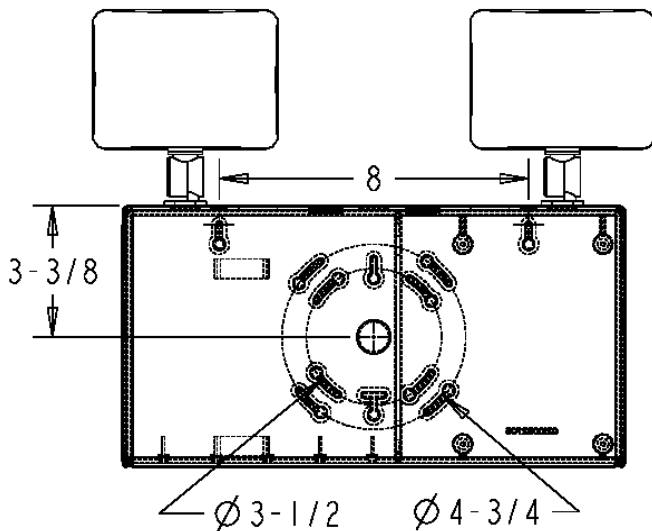

Figure 1
- 3) Additionally, two slotted vertical keyway slots (Figure 1) may be used to attach the housing to independent anchor supports. Use three #8 toggle bolts (supplied by others) for securing to wallboard or hollow concrete walls. If the wiring is wall recessed, run wires through center hole of housing in preparation for unit wiring.